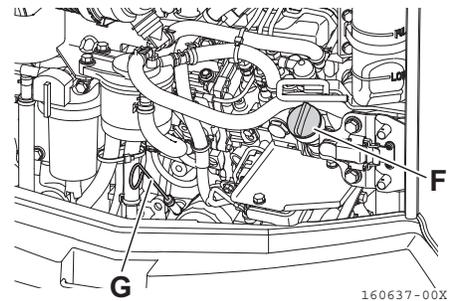

Fig. 3-5
2. Pick up the dipstick (**Fig. 3-5, G**) and wipe it with a rag to remove oil deposits.
3. Fully insert the dipstick (**Fig. 3-5, G**) into the dipstick tube, then draw it out.
4. If the dipstick (**Fig. 3-5, G**) is wet above the midpoint between the H and L marks, the engine oil level is appropriate.
1-Open the supply port cap (Fig. 3-5, F).
3-Close the supply port cap (Fig. 3-5, F).
5. Insert the dipstick (Fig. 3-5, G) as original.